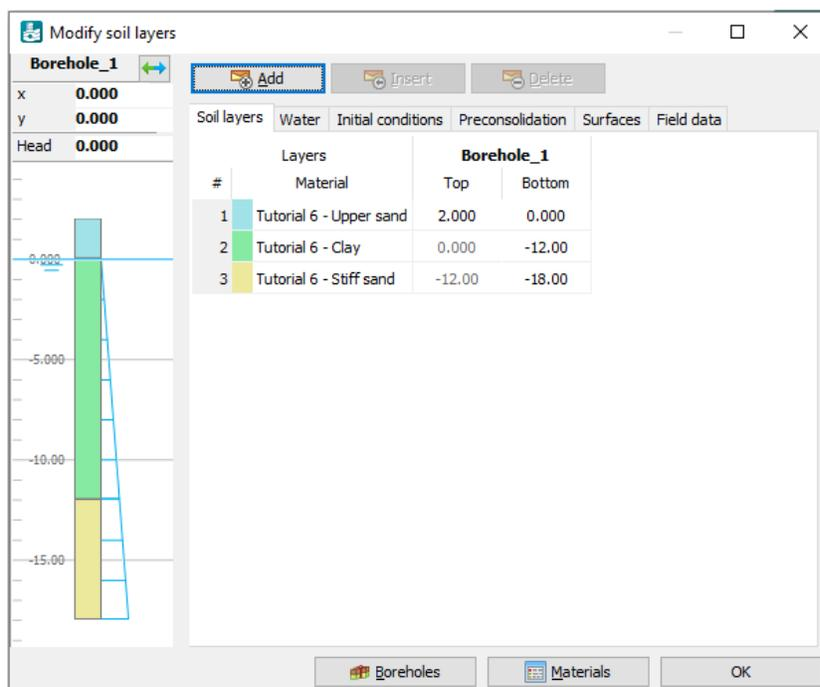

Figure 69: Soil layer distribution
2. Assign the material data sets to the corresponding soil layers (Figure 69 (on page 95)) and close the **Modify soil layers** window. The concrete data set will be assigned later.